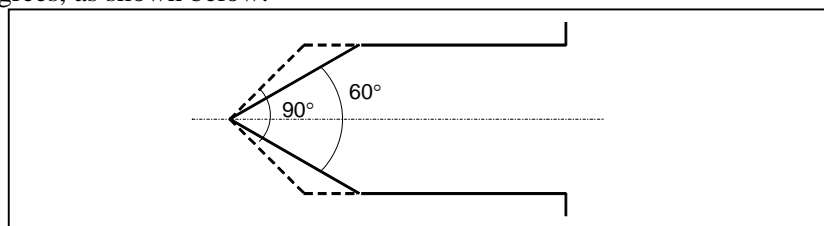

Fig. 2.1.9 (g)
Setting of direction of forbidden area for a chuck and of forbidden area for a tail stock is decided by a big and small relation between parameter No.1336 (CZ) and parameter No.1348 (TZ). When set to CZ<TZ, the direction of the chuck and of the tail stock becomes direction shown in Fig. 2.1.9 (h). When set to CZ>TZ, the direction of the chuck and of the tail stock becomes direction shown in Fig. 2.1.9 (i).